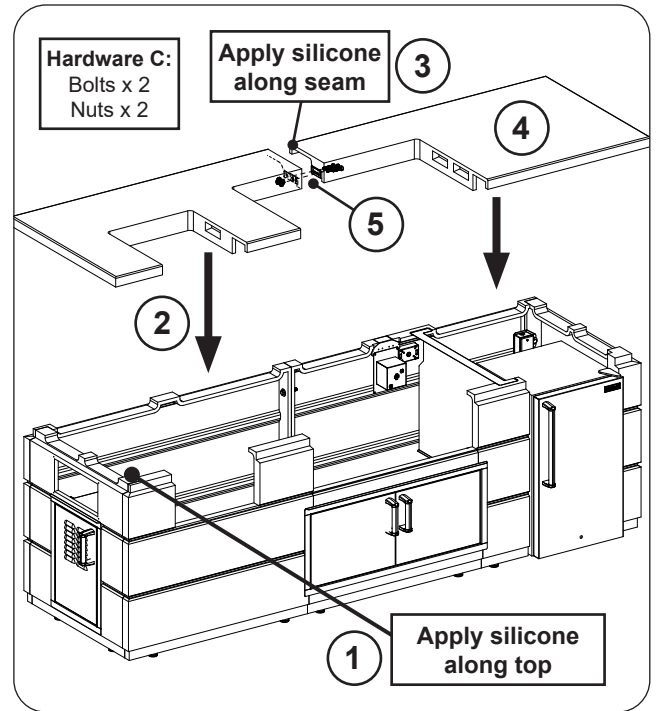

Fig. 13-1 Assemble countertop
1. Apply silicone along the top of the island (see Fig. 13-1, step 1).
2. Place the countertop left piece onto the island as shown in Fig. 13-1, step 2. (Be sure to align the cutouts in the countertop with the openings in the front wall.)
3. Apply silicone along the countertop seam (see Fig. 13-1, step 3).
4. Place the countertop right piece onto the island as shown in Fig. 13-1, step 4. (Be sure to align the cutout in the countertop with the opening in the front wall.)
5. Repeat the hardware installation process (hardware kit C) and use two $\frac{3}{4}$ " open end wrenches (or equivalent) to tighten (see Fig. 13-1, step 5).